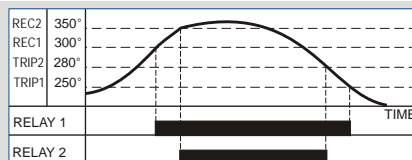

Figure 2
**Example:** A typical application where two fans are used to control a process is shown in Fig. 2 above. The first fan is activated at 300° and remains on until the temp. falls below 250°, while the second switches on at 350° and switches off at 280°.